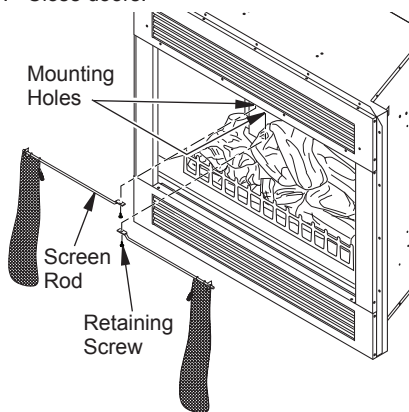

Figure 14 - Removing Screen/Rod Assembly
3. Remove 2 screws securing screen rods (see Figure 14).